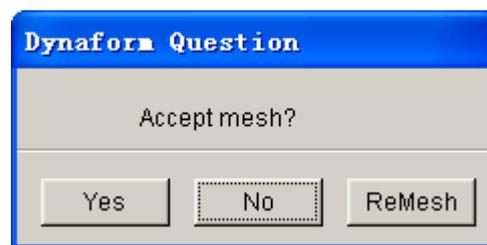

Figure 5.9 Question dialog box
8. Click **OK** button to confirm size of tool radius. **Dynaform Question** dialog box illustrated in Figure 5.9 is displayed. Click **Yes** button to accept the generated mesh.